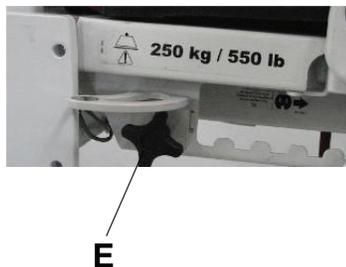

Figure 79: Installing the screw knob
2. Install the screw knob onto the bracket back (E) (Figure 79 on page 81).